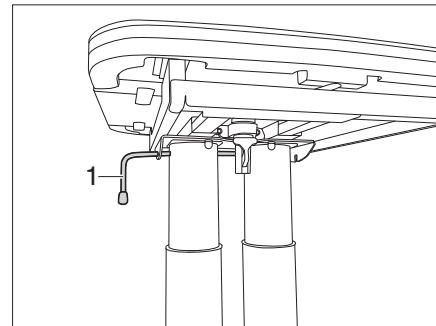

Fig. 110 Lock the table
- Swivel the catch lever (Fig. 110,1) to the right. The lift-off table is locked.
- Release the locking lever (Fig. 110,1).
- Swivel the catch lever (Fig. 110,1) to the left. The lock is open.